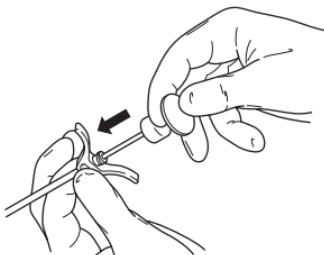

Figure 5 – Inject Augmentation Material Using the Cement Obturator
5. Under fluoroscopic guidance, inject the augmentation material using the cement obturator (figure 5).